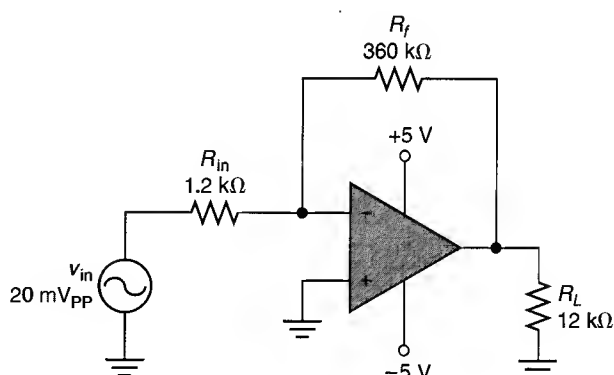

FIGURE 15.68
34. The circuit shown in Figure 15.68 has a measured f_{C2} of 100 kHz. What is the value of f_{unity} for the op-amp?
42. Calculate the values of A_{CL} , $Z_{in(f)}$, and $Z_{out(f)}$ for the circuit shown in Figure 15.68. Assume that the op-amp has the following ratings: $A_{OL} = 180,000$, $Z_{in} = 3 \text{ M}\Omega$, and $Z_{out} = 75 \Omega$.